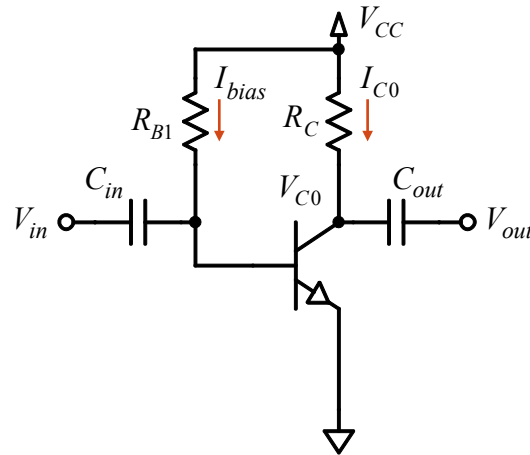

Figure 6-7: High-gain NPN common-emitter amplifier stage.
Although the high-gain amplifier circuit shown in Figure 6-7 is much simpler than the previous amplifier design, it will be quite dependent on the actual transistor β for its DC bias conditions and its resulting gain and output voltage range. The absence of an emitter resistor means that the transistor's dynamic emitter resistance r_e will determine the circuit gain along with the collector resistor R_C (using equations 6.7 and 6.8 on page 6-8).
5. Consider a high-gain amplifier circuit (Figure 6-7 on page 6-14) with $R_C = 1k\Omega$ and $V_{CC} = +5V$. If the gain of the amplifier is to be $G = -100$ and the transistor $\beta = 200$, then what should be the value of R_{B1} ? What will be the values of I_{C0} and V_{C0} ?
Construct the high-gain, NPN transistor amplifier (Figure 6-7 on page 6-14) with the specifications provided by Prelab exercise 5. Remember, this new circuit calls for $V_{CC} = +5V$. Measure V_{C0} and adjust the value of R_C to better achieve your design value. Calculate a new gain estimate from your final V_{C0} value (see equation 6.17).
The gain of the circuit to a differential input may be similarly analyzed using the right-hand diagram in Figure 6-15. In this case equal and opposite voltages are applied to the inputs, resulting in equal and opposite changes in the transistors' base biases. Thus the emitter currents will also change in opposite directions, and the total current through R_E remains constant (to first order in the assumed small differential input voltage). This implies that the emitter voltage of each transistor doesn't change, so we have a situation identical to that of the high-gain common-emitter amplifier in Figure 6-7. Each transistor input sees one half of the total differential input voltage, and the gain of each is determined by the ratio of its collector resistor to its dynamic emitter resistance: $r_E = (26\Omega \text{ mA})/I_{C0}$. Consequently, the differential voltage gain $g_{diff} = \frac{1}{2}R_C/r_E = \frac{1}{2}I_{C0}R_C/26\text{mV} \approx 20 \times (V_{CC} - V_{C0})$ (voltages in volts). Typically, with $V_{CC} \sim 10\text{V}$, we would get $g_{diff} \sim 100$.